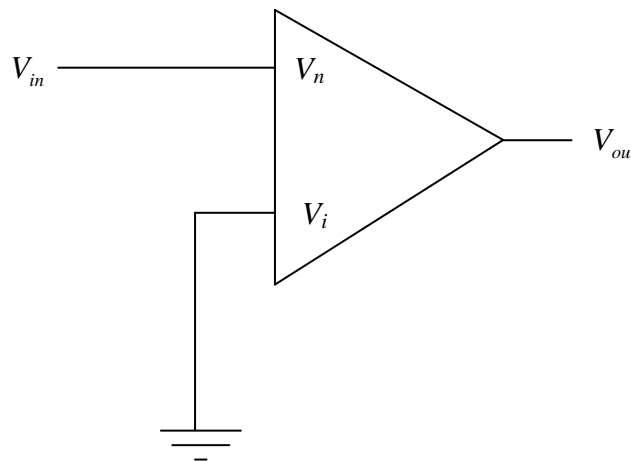
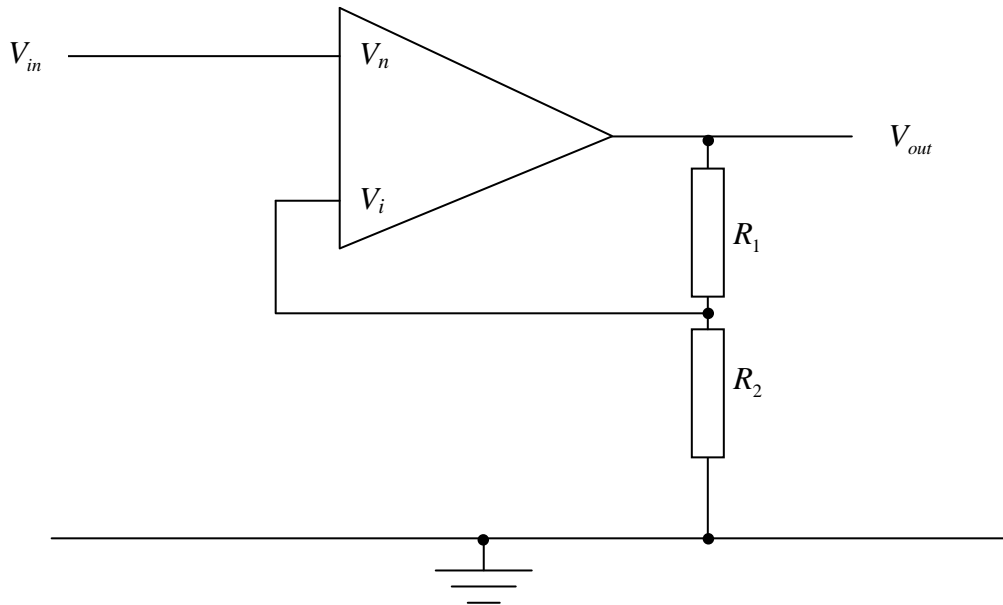
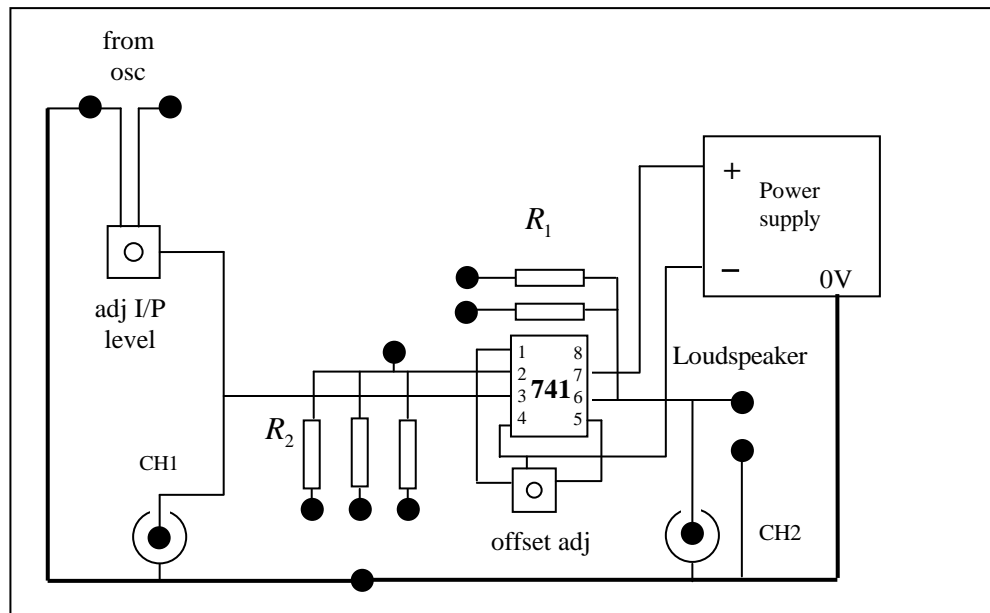

Figure 7. Representation of an op-amp used in open loop non-inverting mode. The symbol shown connected to V_i is the “earth” or 0 volts power rail symbol.
Figure 11. Circuit diagram of non inverting amplifier with feedback resistor network.
Figure 12. Operational amplifier printed circuit board layout.
The feedback circuit we shall use in this experiment is illustrated in figure 11. The feedback fraction βV_{out} is provided by a potential divider resistor network. The voltage V_{out} is dropped between the output of the op-amp and earth through the resistors R_1 and R_2 . The voltage at the inverting input V_i is given by:-
The feedback fraction β will be varied by choosing different values of the feedback resistors R_1 and R_2 (figure 11). A small oscillating signal is fed into the non-inverting input, and a fraction β of the output is fed back to the inverting input. The output voltage is measured.
The circuit will be made up on the operational amplifier printed circuit board provided, which is shown schematically in figure 12. Note that this is a circuit board *layout*, *not* a circuit diagram.
A circuit diagram follows a simple set of rules [1]: straight horizontal and vertical lines show wires; connections are dots, wires crossing are without dots; don't draw semi-circle loops to show jumps; use standard circuit element symbols only. Figure 11 is a simple diagram of only *part* of the circuit; figure 12 covers the *layout* of the circuit board (but not all the components used in the experiment) but is *not* suitable for understanding how the circuit functions. It also includes features that are irrelevant to this experiment.
Q: Fig. 12 shows two resistors labelled R1 and three labelled R2. Only two of these will be used at any one time. Do you need to show all five resistors in your circuit diagram?
The values of R_1 and R_2 are selected by placing the short banana plug leads (yellow) between the appropriate connection points (see figure 12). The operational amplifier is the small, eight legged integrated circuit (IC) situated near the centre of the board. It is not soldered directly to the board, but is mounted in an eight pin dual-in-line (DIL) socket. The indentation on the op-amp chip shows which is the top end and a small dot locates the position of pin (leg) 1 (see Figure 7). The board has an integrated power supply that
Q: Fig. 13 shows that a variable resistor has 3 external connections. Fig. 12 shows 3 tracks emanating from the component labelled “Adjust I/P level”. Can you work out which is which?
You will need to create your own circuit *diagram* from the information available. Do not copy out fig. 12; it is provided merely to show connections which are not immediately obvious because they are on the underside of the printed circuit board.